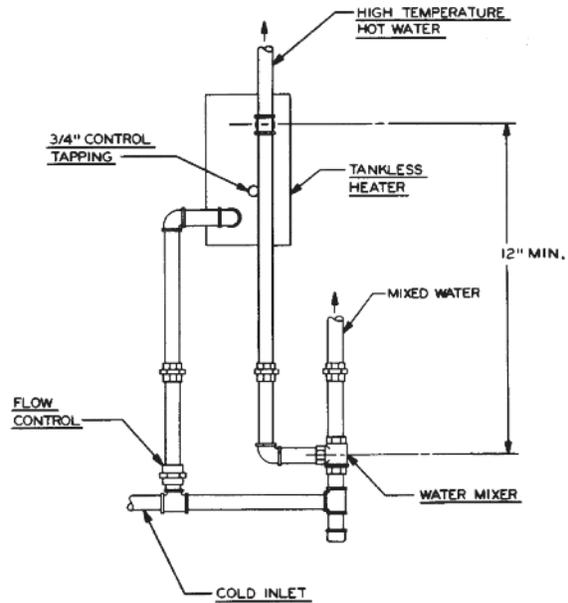

Figure 3.3: Tankless Coil Piping, Steam Boiler
1. If a tankless coil is used (item 17), install as pictured. On steam boilers, install in opening in rear section. For suggested piping of tankless water heaters refer to Figure 3.3.